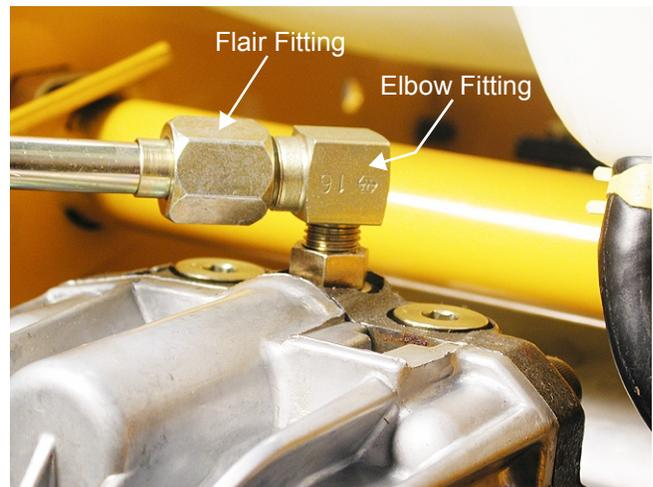

Figure 6
14. Remove the flair fitting from the 90° elbow fitting, at the top of the BDU-10L, using an 11/16 in. and a 5/8 in. wrench. See Figure 6.